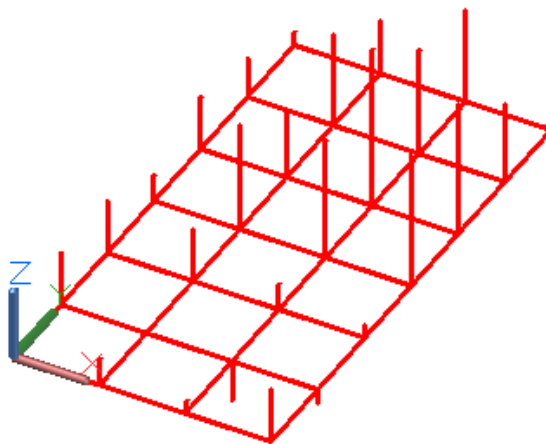

Figure Step 3
Step 3 Set the current visual style to 3D Wireframe. Turn layer Surface 2 off and on layer: Model, draw lines representing the Z coordinates. (Figure Step 3)